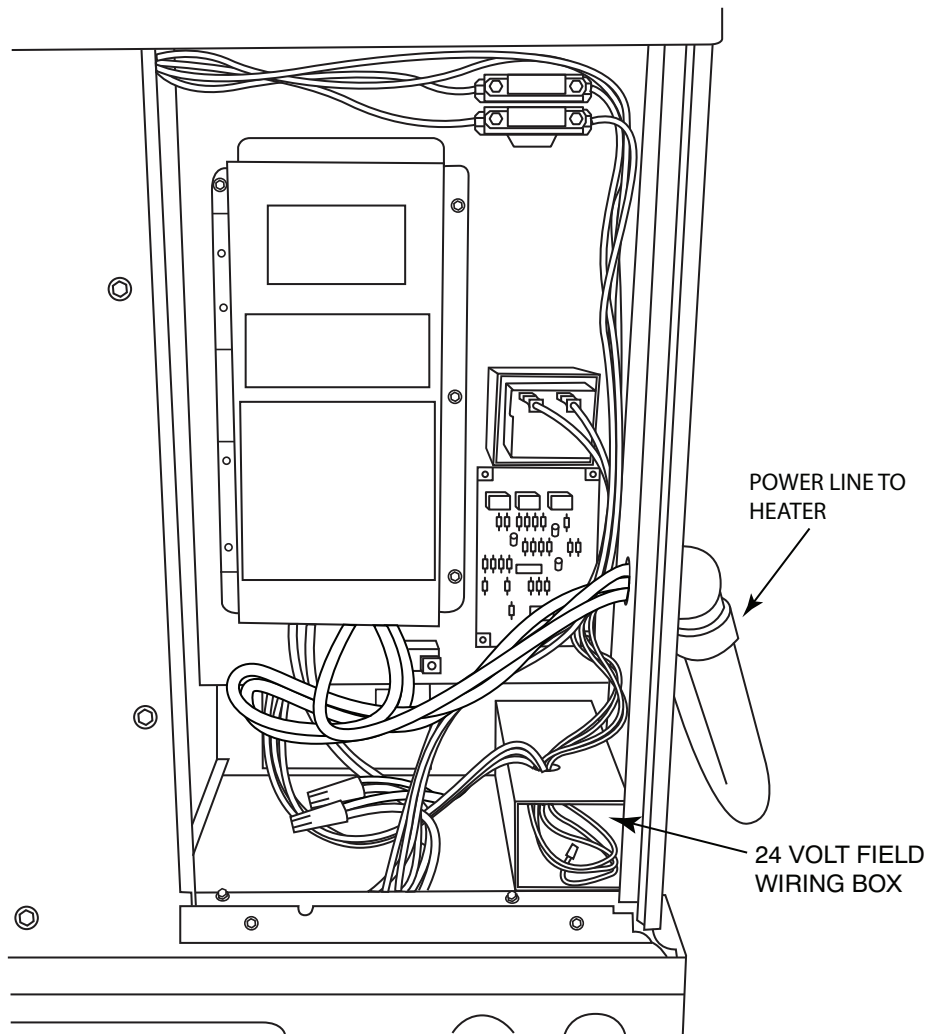
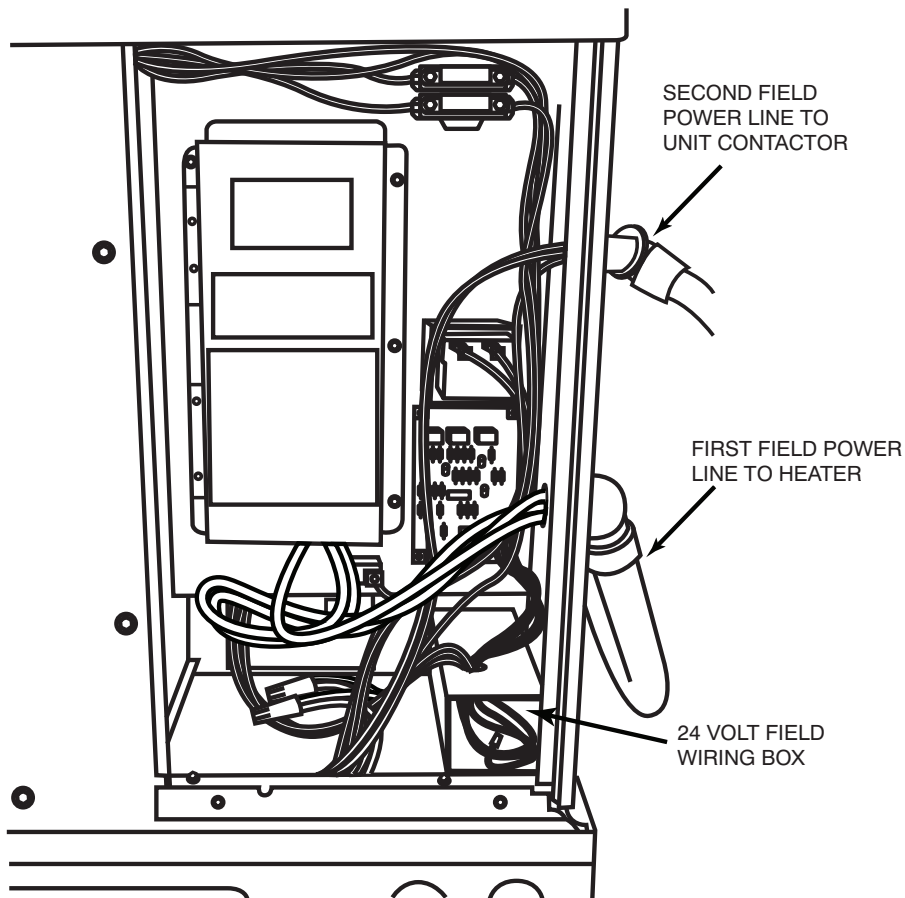
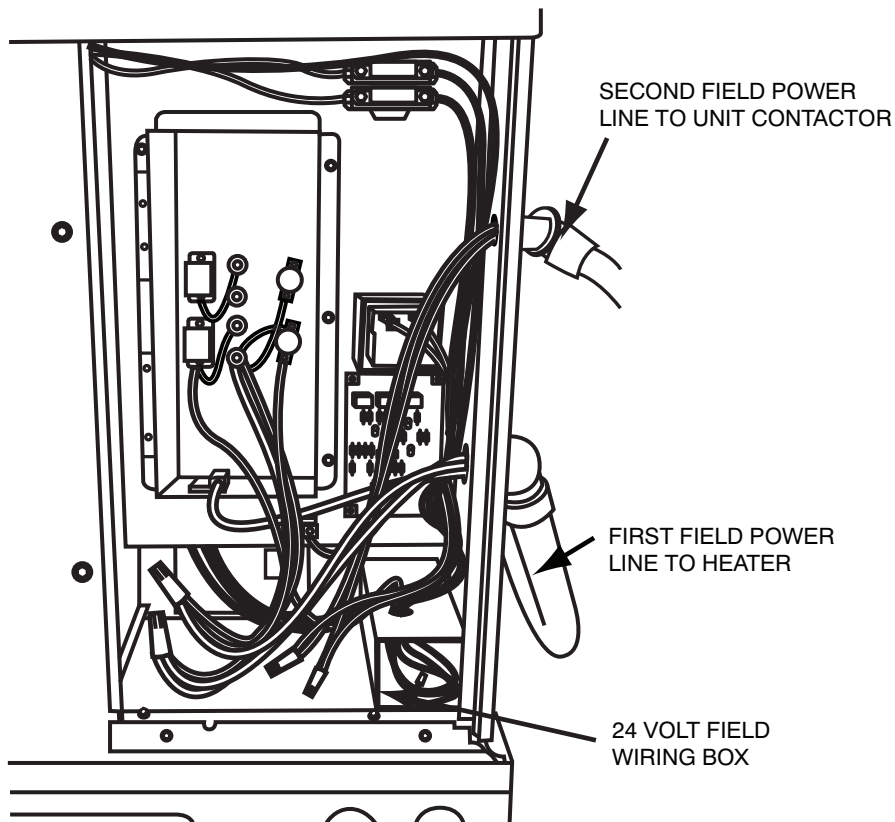
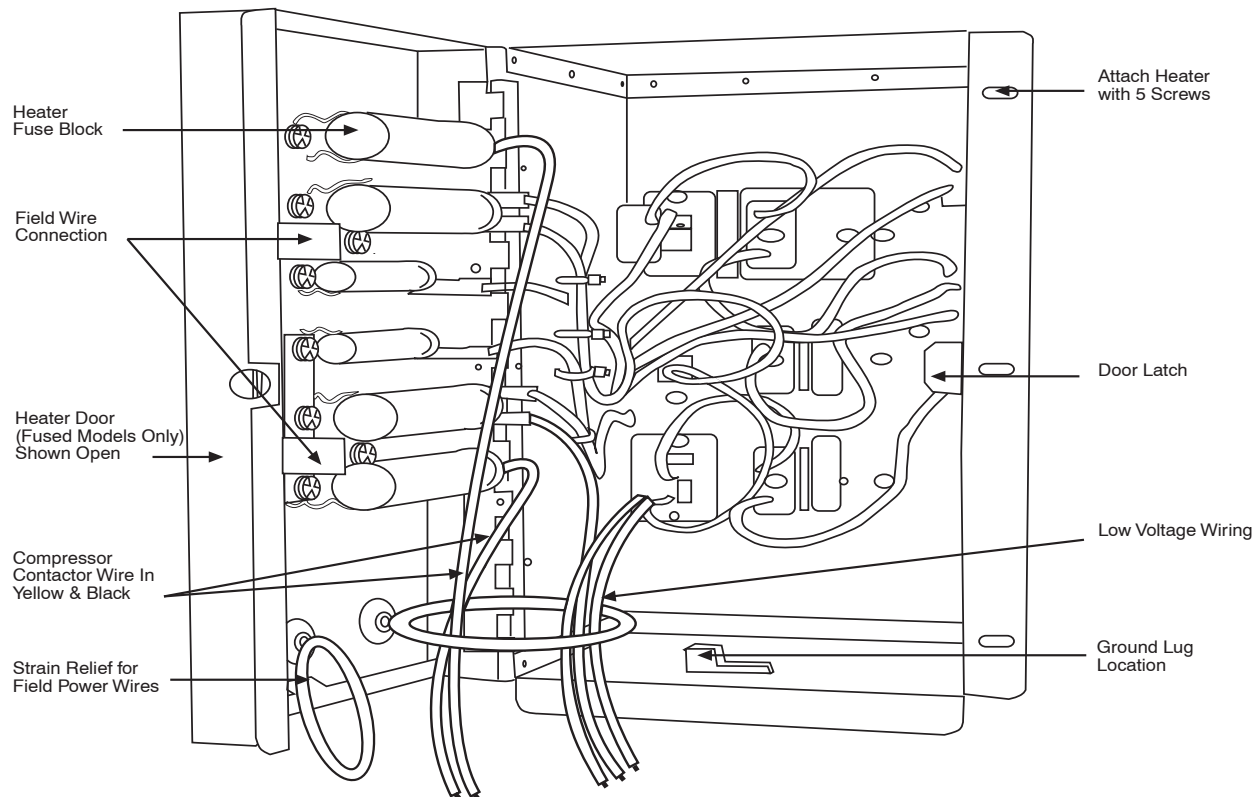

Fig. 6 - Single Point Connections for Fused Heater
Fig. 8 - Dual Point Connections for Fused Heater
Fig. 9 - Dual Point Connection for Non-Fused Heater
Fig. 10 - Fused Heater Control Box
4. Insert field power line through the electrical heater access panel hole (see Fig. 6 or 7) and connect to electric heater as shown in their respective wiring diagram. Fused electrical heaters field lines will be connected to the fuse block lugs (see Fig. 10) and non fused electric heater field lines will be connected to heater leads using wire nuts. Ground electrical equipment in the appropriate locations.
3. Insert first field power line through the electrical heater access panel bottom hole (see Fig. 8 or Fig. 9) and connect to electric heater as shown in their respective wiring diagram found on the heater accessory kit. Fused electrical heaters field lines will be connected to the fuse block lugs (see Fig. 10.) and non fused electric heater field lines will be connected to heater leads using wire nuts. Ground electrical equipment in the appropriate locations.
4. Insert second field power line through the electrical heater access panel top hole (see Fig. 8 or Fig. 9) and connect to unit contactor black and yellow leads using wire nuts. Ground electrical equipment in the appropriate locations.